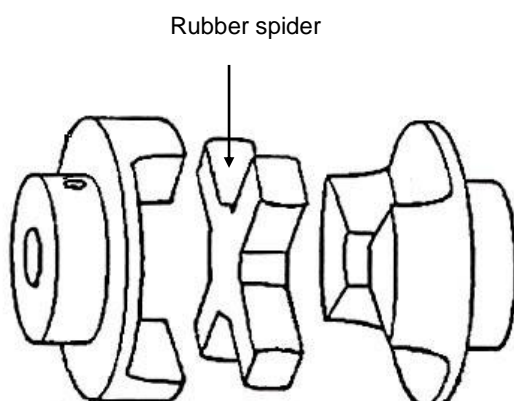

FIG 11.
- A. The spider coupling (Fig 11) has a cut or moulded rubber-like insert located between the jaws on the face of the coupling.